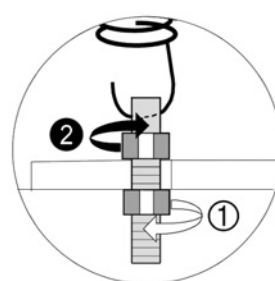

Fig. 44
- perform operations 1 and 2 shown in Fig. 44.